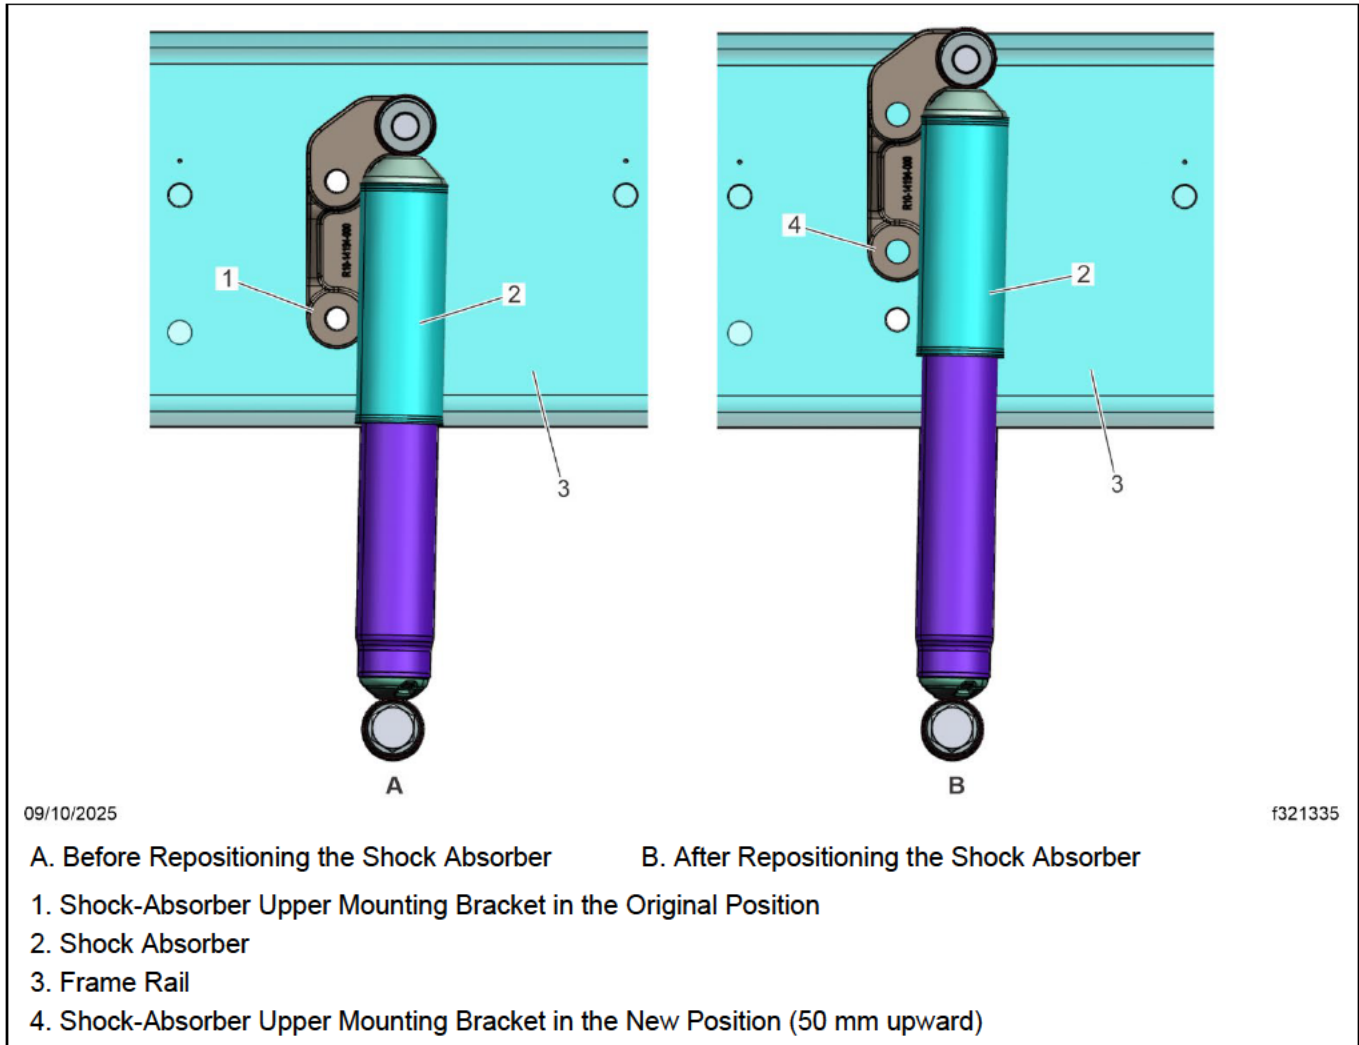

Fig. 2, Repositioning the Shock Absorber Upper Mounting Bracket
11. Install the new shock absorber upper mounting bracket and tighten the fasteners 155 lbf-ft (210 N·m). See Fig. 2.